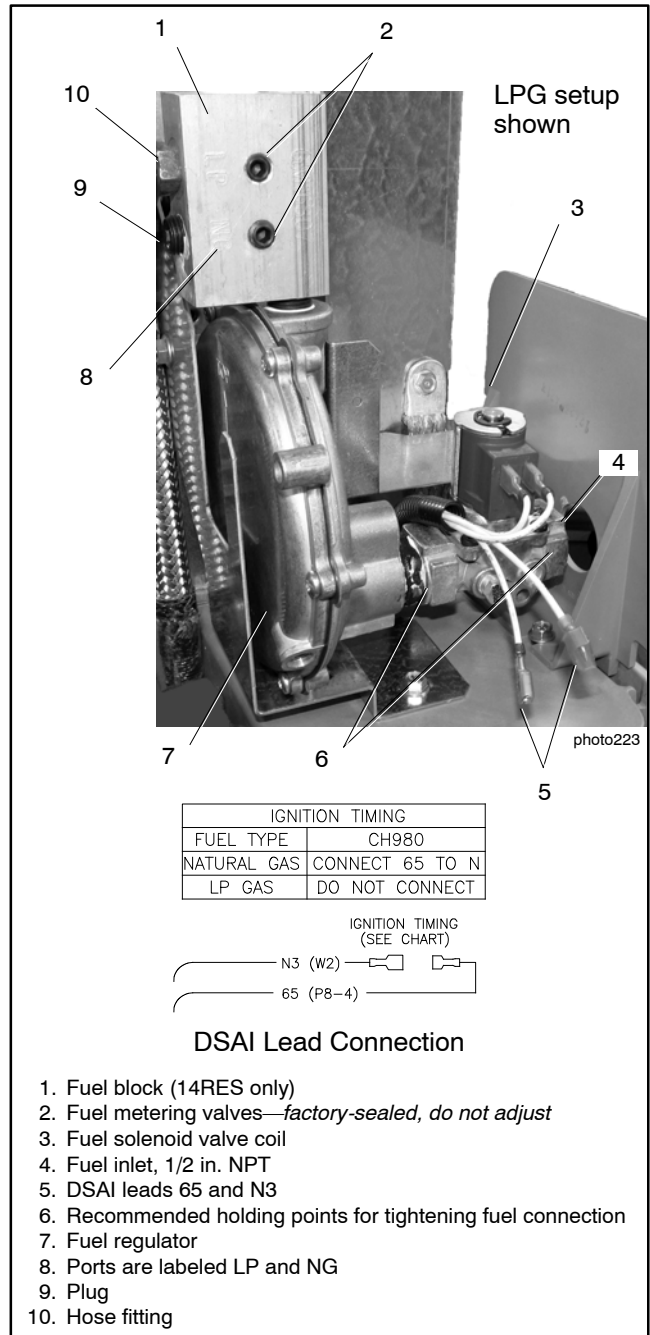

Figure 1-9 Fuel System, 14RESA/RESAL Equipped with Fuel Block (built before June 26, 2014)
Note: Model 14RESA/RESAL generator sets built before June 26, 2014 use a fuel block for the fuel type selection. See Figure 1-9 and use the instructions in this section for fuel conversion.
Use the following procedure to convert from natural gas (NG) to LPG. See Figure 1-9 for the fuel system component locations.
5. Remove the hose clamp and fuel hose from the hose fitting in the fuel block. See Figure 1-9.
6. Remove the hose fitting from the natural gas outlet port in the fuel block. See Figure 1-9.
7. Remove the plug from the LP port in the fuel block. See Figure 1-9.
11. Disconnect digital spark-advance ignition (DSAI) leads 65 and N3 for LPG. The DSAI leads are located near the fuel solenoid valve. See Figure 1-9.
To convert from LPG to natural gas, follow the fuel conversion procedure above, moving the hose fitting to the natural gas port and plugging the LP port. Connect the DSAI leads for natural gas. See Figure 1-9.
Note: Model 14RESA/RESAL generator sets built before June 26, 2014, use a fuel block for the fuel type selection. See Figure 1-9 and use the instructions Section 1.8.1 for fuel conversion.